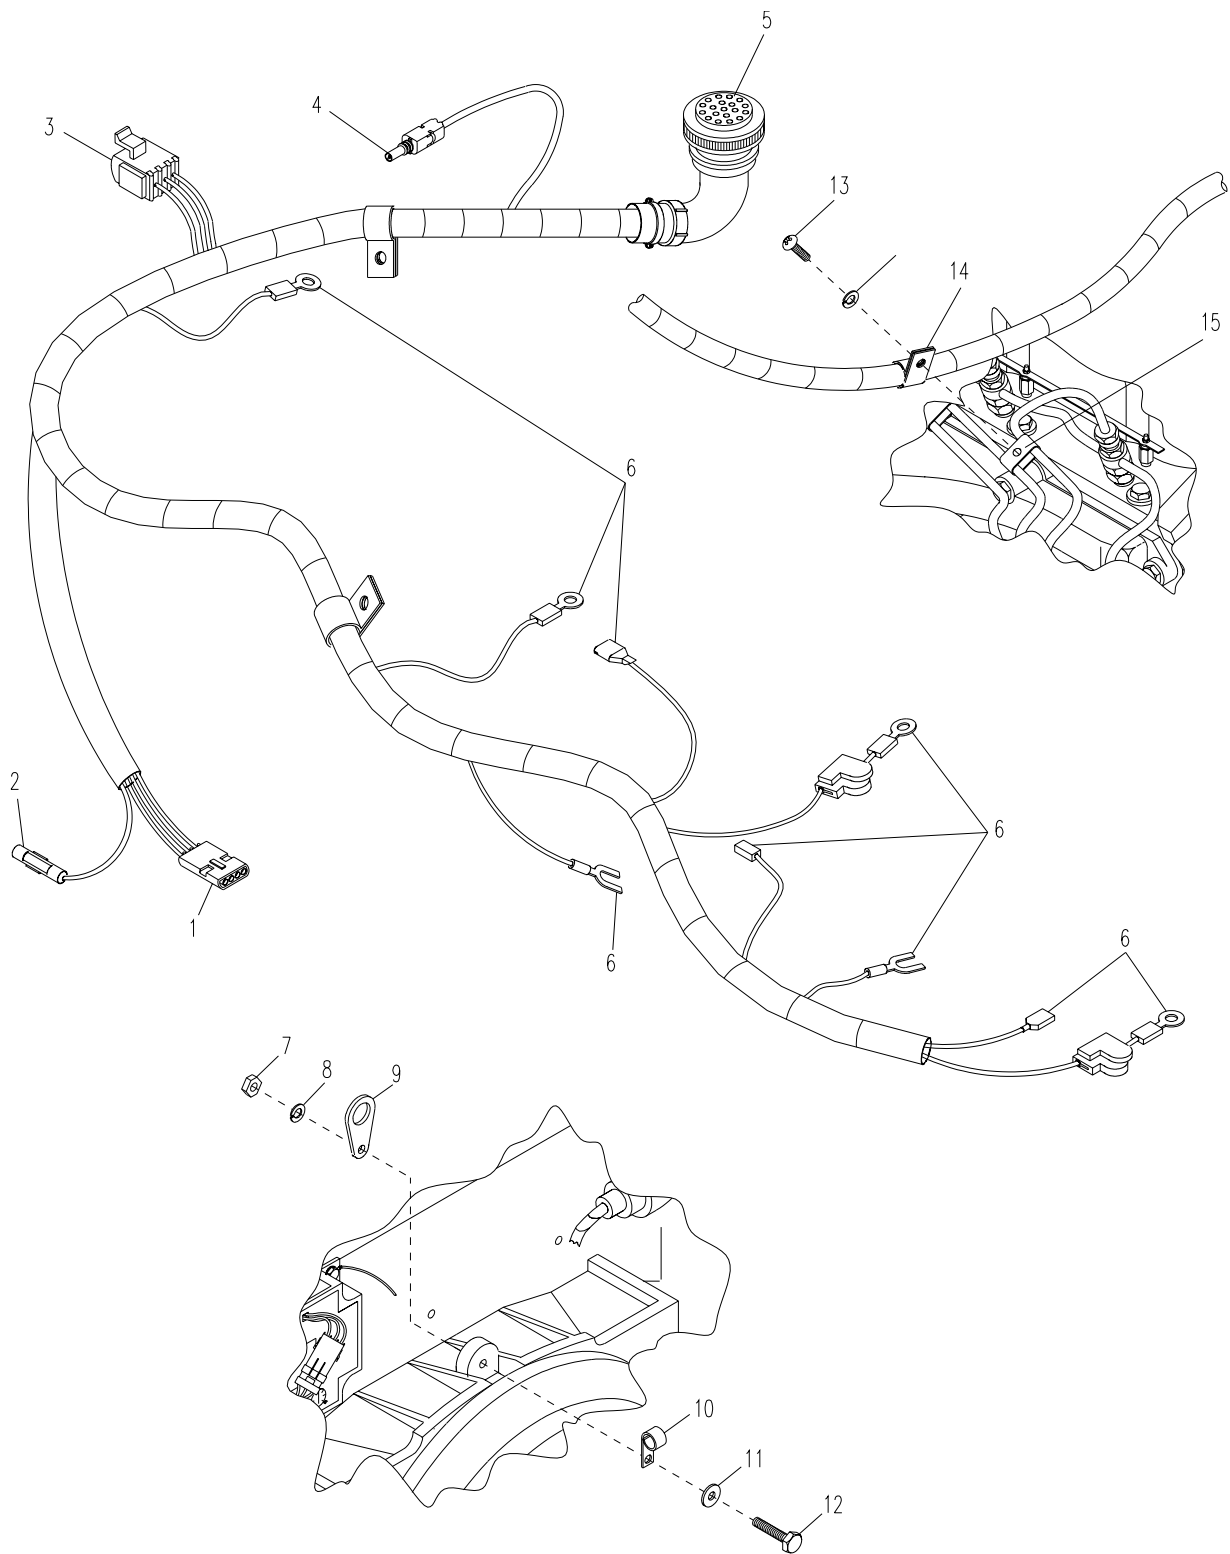

Figure 5-20. Engine Wiring Harness P1
- a. Refer to Table 5-2 and use a Multi-meter to test for continuity between connector P1 pins (5, Figure 5-20) and corresponding leads.